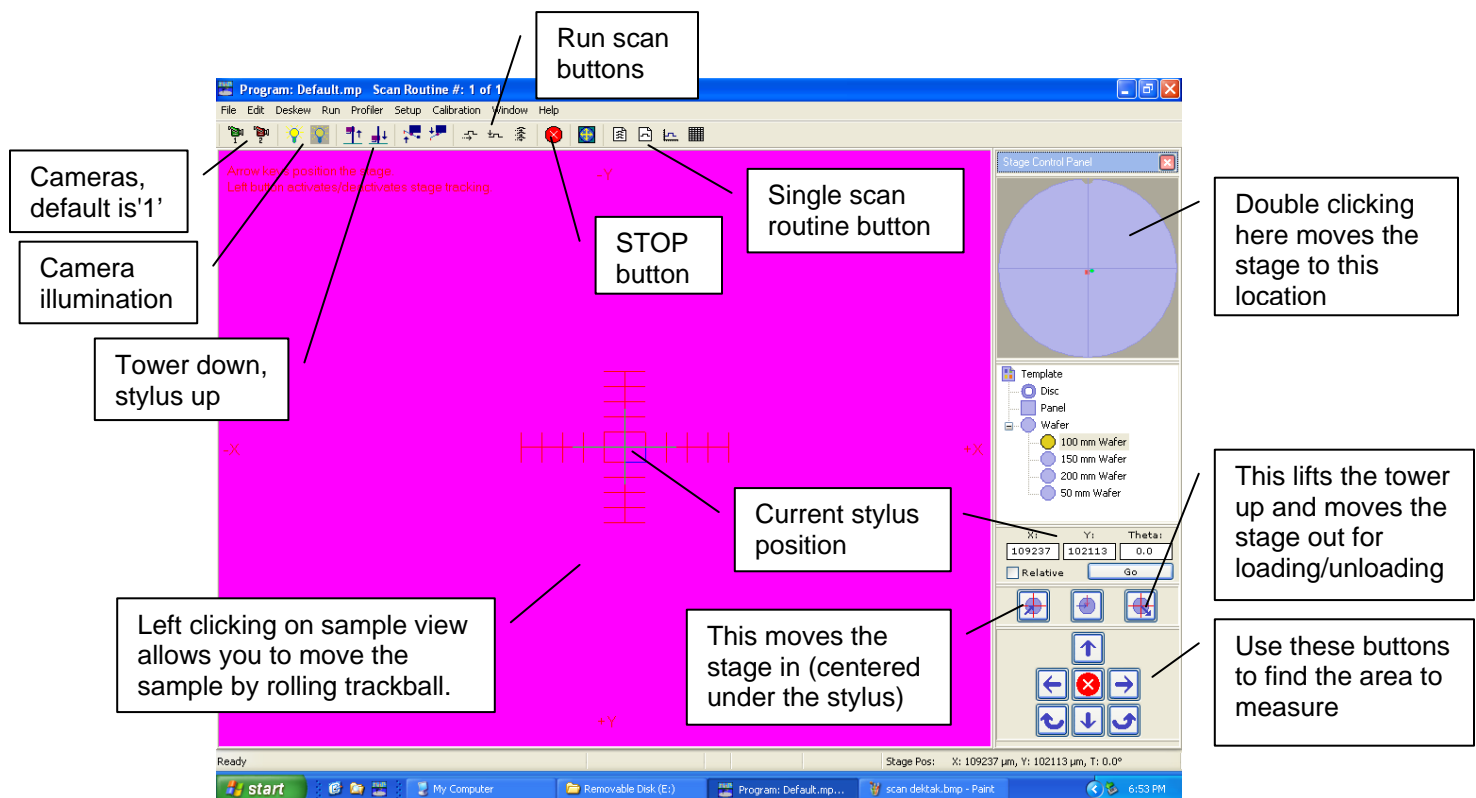
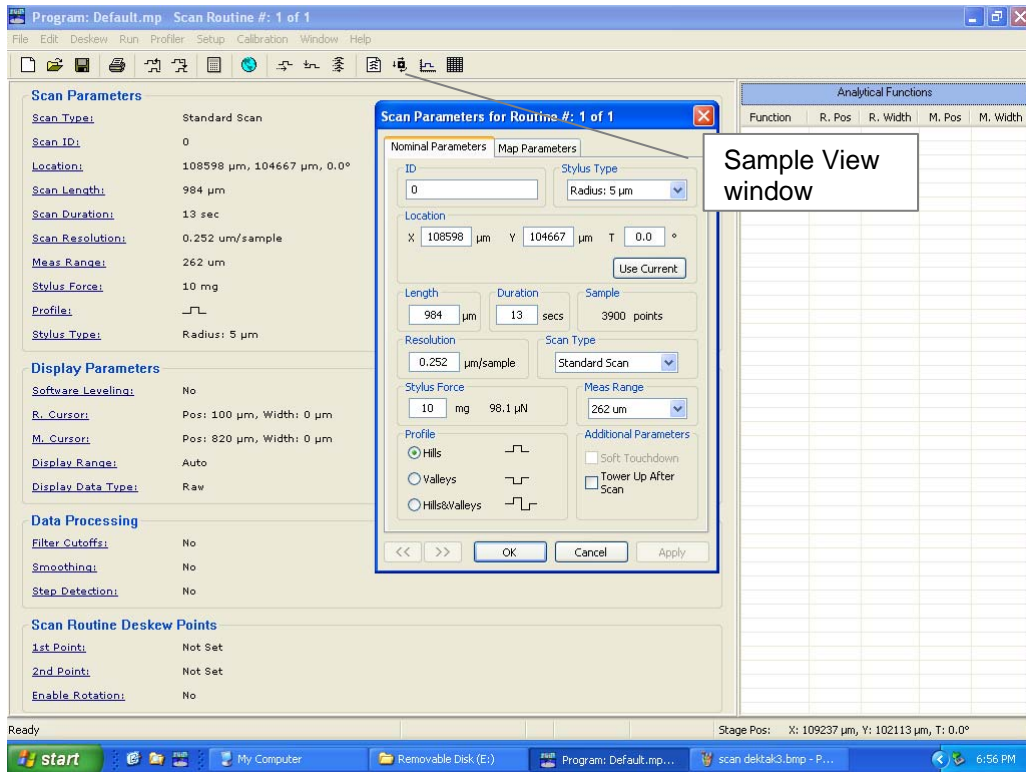

Figure 4: Software startup screen.
Figure 6: Scan Routine window.
- Click on the 'load/unload' button in Figure 4 to move the sample stage out.
- Click the 'stage in' button to move the stage back in (Figure 4).
- Click 'Tower down, stylus up' button in Figure 4 and look if the stylus is coming down on the sample. If not, click on the 'STOP' button right away (Figure 4). This is very important or you can damage the profilometer.
- Left click on the sample view and roll the trackball to move the sample to the start scan location. The center of the screen (marked 'current stylus position' in Figure 4) is where stylus will start and move right.
- a) Click 'single scan routine' button (Figure 4). It will open the window in Figure 6.
- b) Click on any underlined parameter on the left. It will open smaller 'scan parameters' window over it (Figure 4).
- c) You can change any scan parameters here (Figure 6) if you want, but don't change scan length since you have already selected that. You should select Meas Range bigger than your expected step height.
- g) Click 'sample view window' (Figure 6) to go back to sample view.
- h) Click 'Run Scan' button (Figure 4) for currently active scan.
- j) In the sample positioning window (Figure 4), click on the load/unload button.